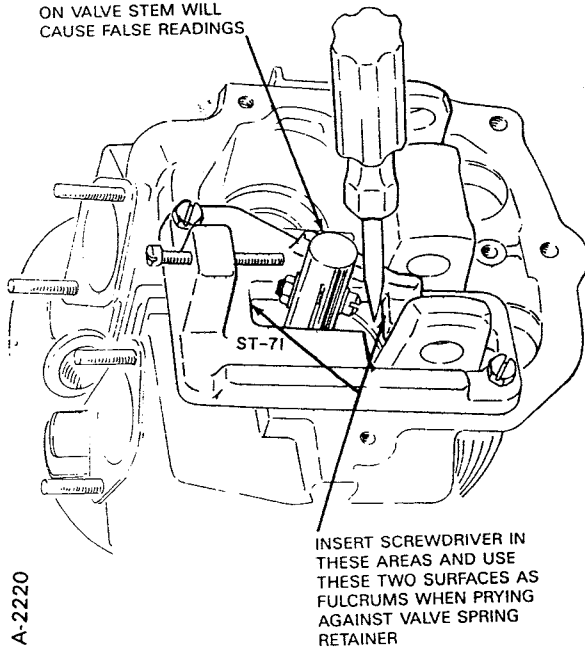

Figure 5. View Showing Screwdriver in Position to Move Exhaust Valve Stem
10. All Engines: Insert the blade of a screwdriver in the area between the exhaust valve spring and fixture as shown in Figure 5; and using the pressure plate as a fulcrum, press the blade of the screwdriver against the exhaust valve spring, forcing it toward the self-locking set screw as far as it will go. Relax the pressure on the screwdriver. Friction between the fixture and the outer spring retainer should keep the valve stem from returning to its normal position. If the valve stem does have a tendency to move, maintain a slight pressure on the spring with the screwdriver.